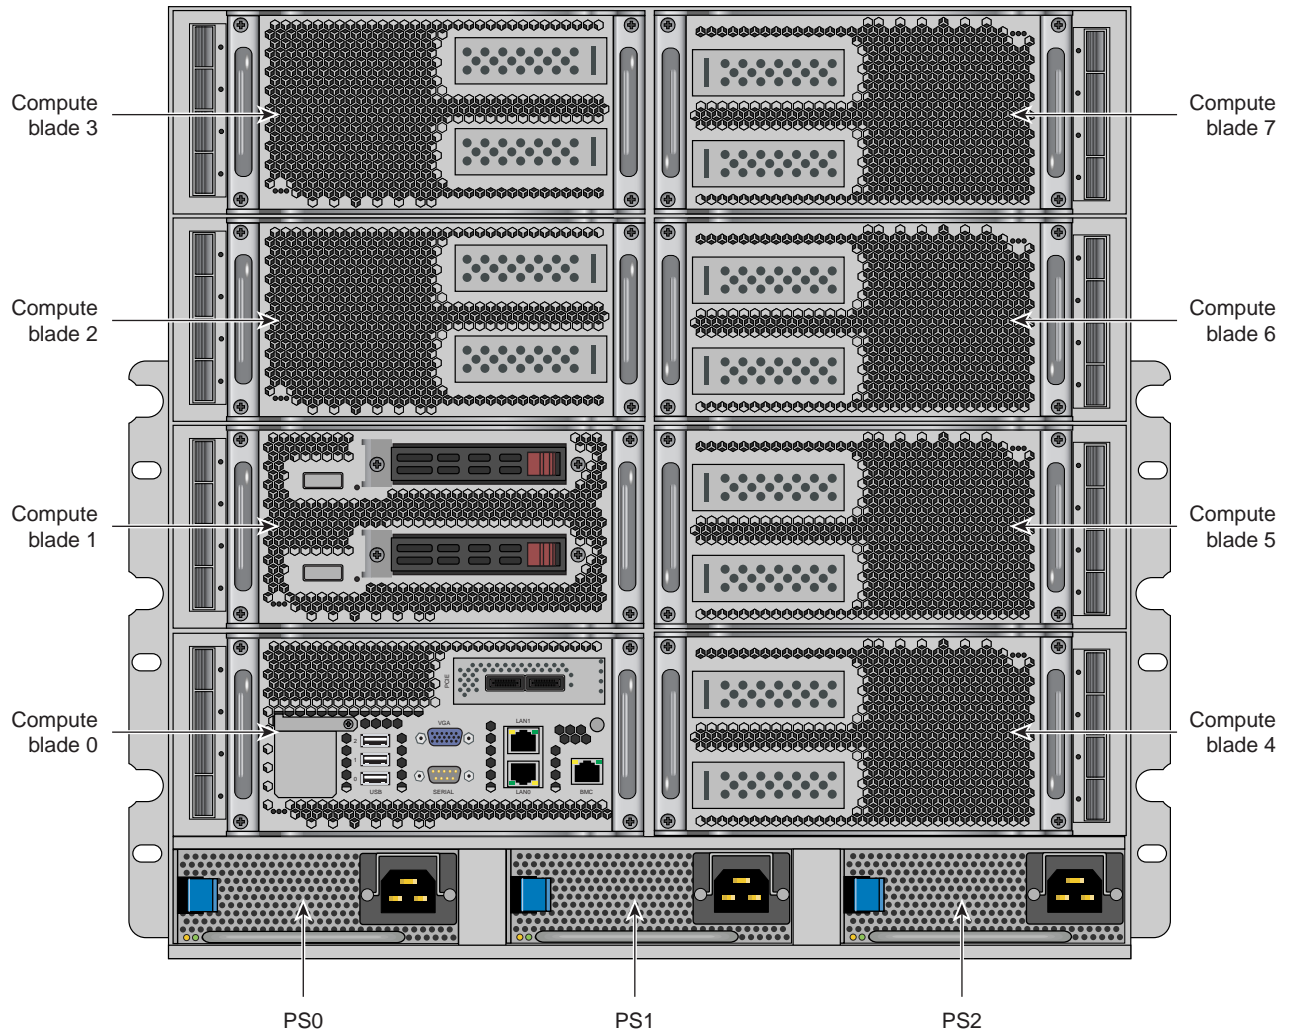

Figure 3-5 SGI UV 2000 IRU System Components Example
- **Individual Rack Unit (IRU).** This enclosure contains three power supplies, 2-8 compute/memory blades, BaseIO and other optional riser enabled blades for the SGI UV 2000. The enclosure is 10U high. Figure 3-5 on page 49 shows the SGI UV 2000 IRU system components.